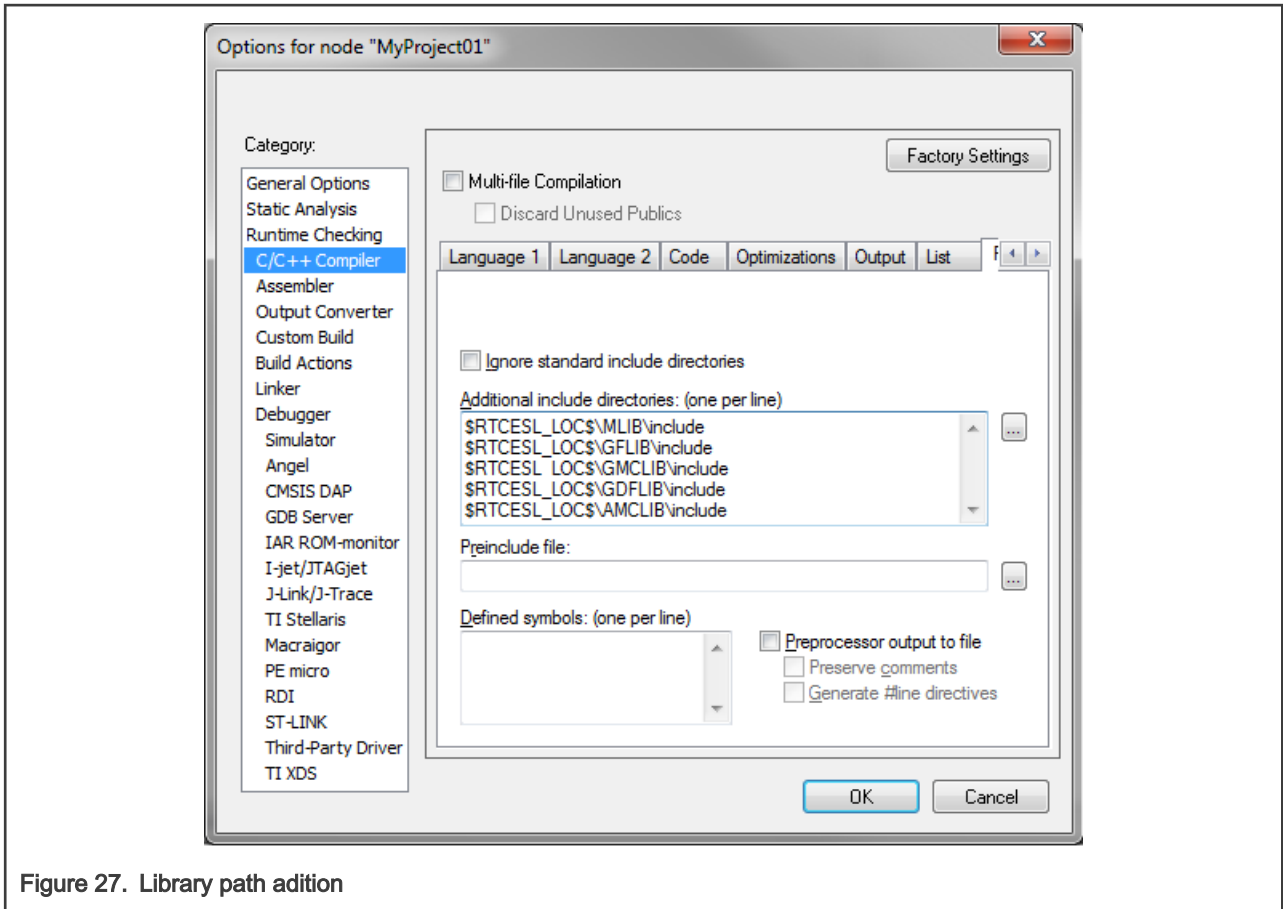

Figure 27. Library path addition
5. Click OK in the main dialog. See Figure 27.